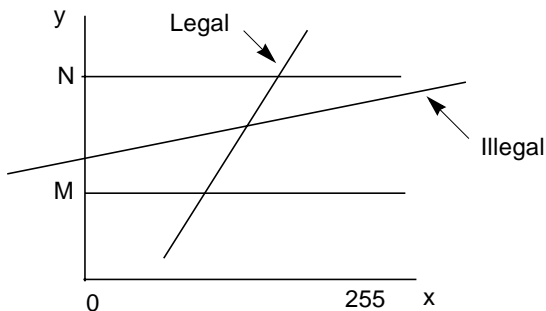

FIGURE 6-1 Creator Depth-cueing
- The parameters for `xil_rescale` must be chosen such that y values of the line represented must span the range of values between N and M while the x values are within 0 and 255. See FIGURE 6-1.